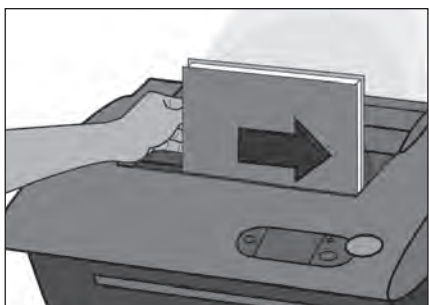

FIGURE 21b
- 10b. Place the whole cover/document assembly inside the binder and press the BIND button to close the book clamps. (figure 21b)